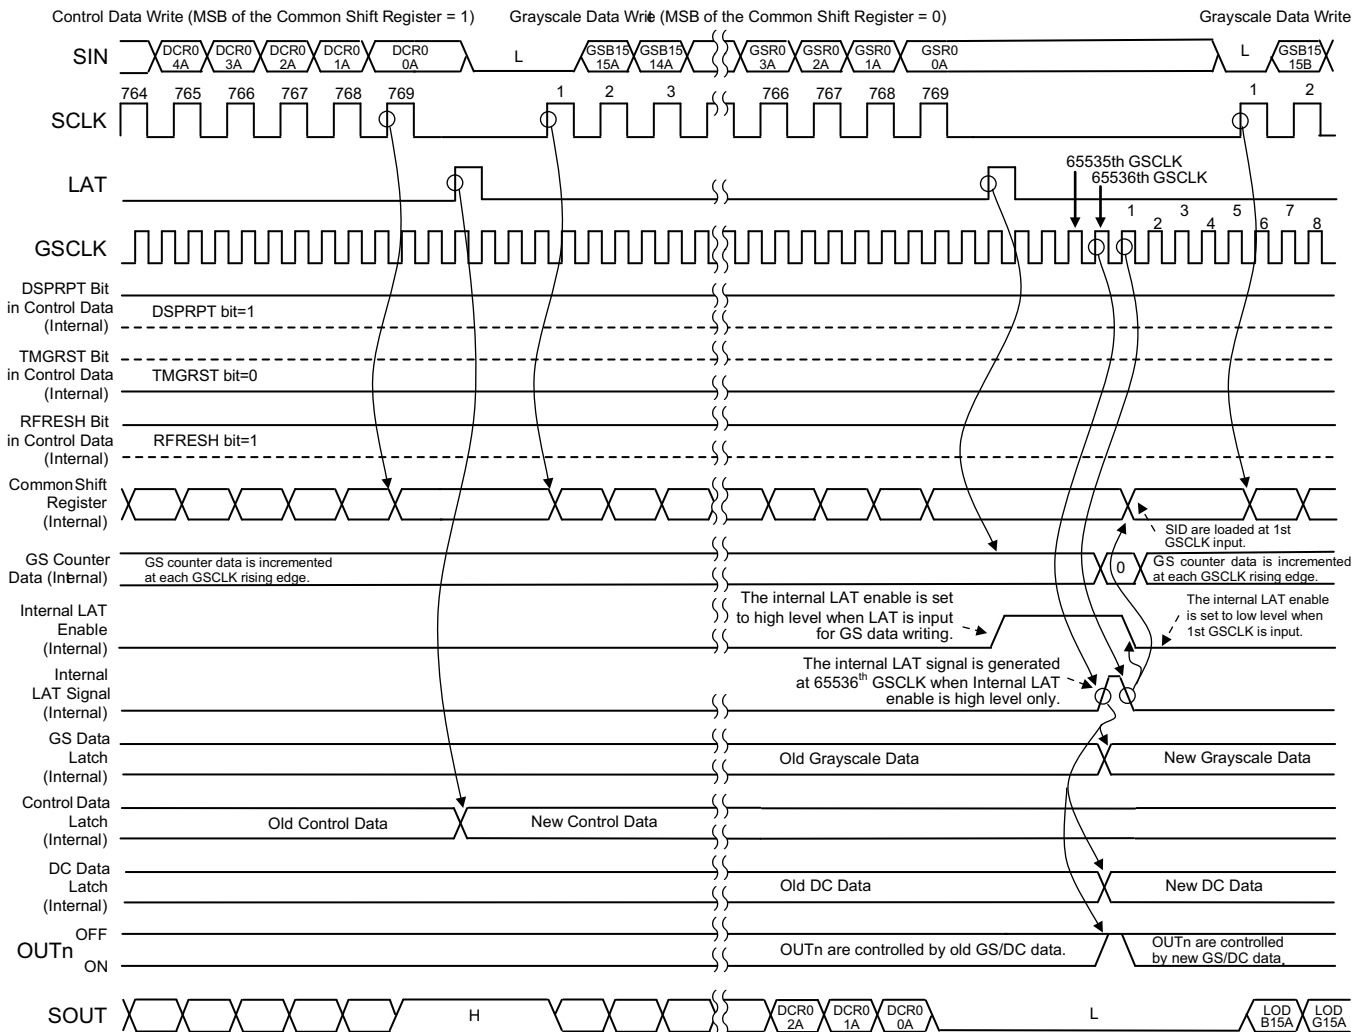
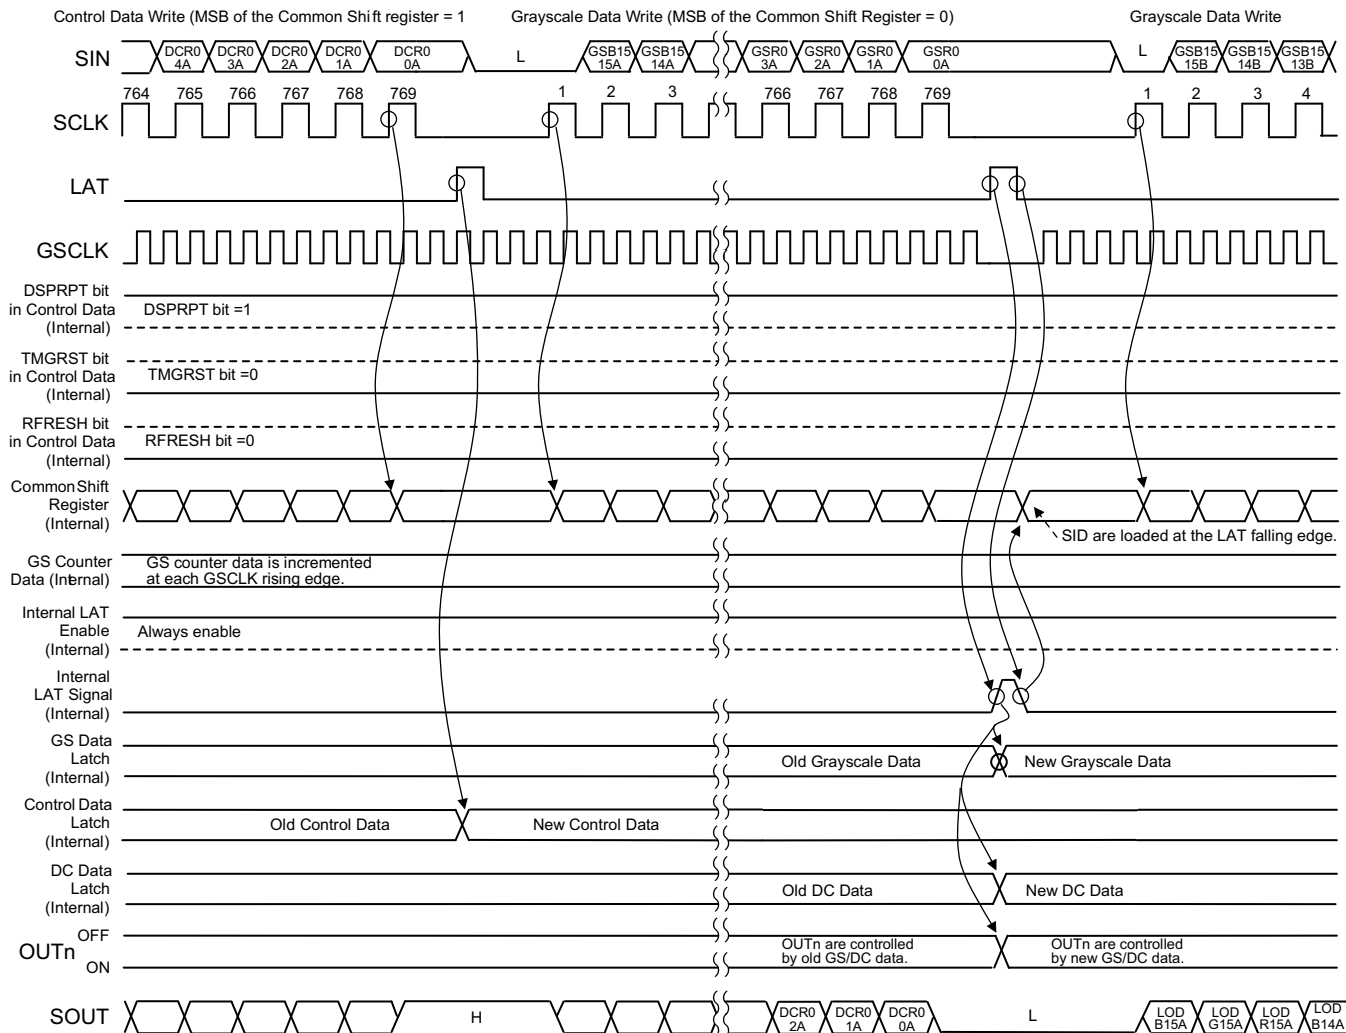

Figure 31. Auto Data Refresh Function 1 (DSPRPT = 1, TMGRST = 0, and RFRESH = 1)
Figure 32. Auto Data Refresh Function 2 (DSPRPT = 1, TMGRST = 0, and RFRESH = 0)
This function delays updating the grayscale (GS) and dot correction (DC) data until the end of one entire display period. If both DC data and GS data are written by the end of an entire display period, the input DC data are held in the control data latch and the GS data are held in the common shift register. Both DC and GS data are copied to the 336-bit DC data latch and 768-bit GS data latch at the end of an entire display period. The data latches are used for the next display period. GS data are directly copied from the common shift register to the GS data latch. Therefore, GS data must be written after the DC data are written. Furthermore, the GS data in the common shift resistor must not be changed until all data are copied to the GS data latch. Figure 31 and Figure 32 show timing diagrams for this function.